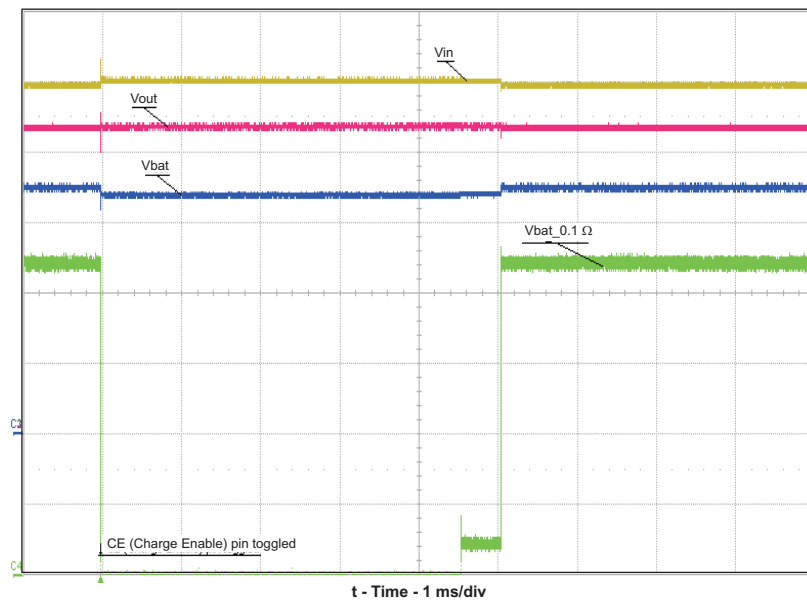

Figure 3. Charge Enabled, Pulled High, Then Low – Disables Charge
18. Allow the battery to continue to charge until the battery reaches voltage regulation, approximately 4.2 V \pm 40 mV. Verify that the voltage is regulated as the current tapers over the next 1 to 2 h depending on the battery capacity. See Figure 3 for a charge profile (time in plot is not proportional to actual charge time).